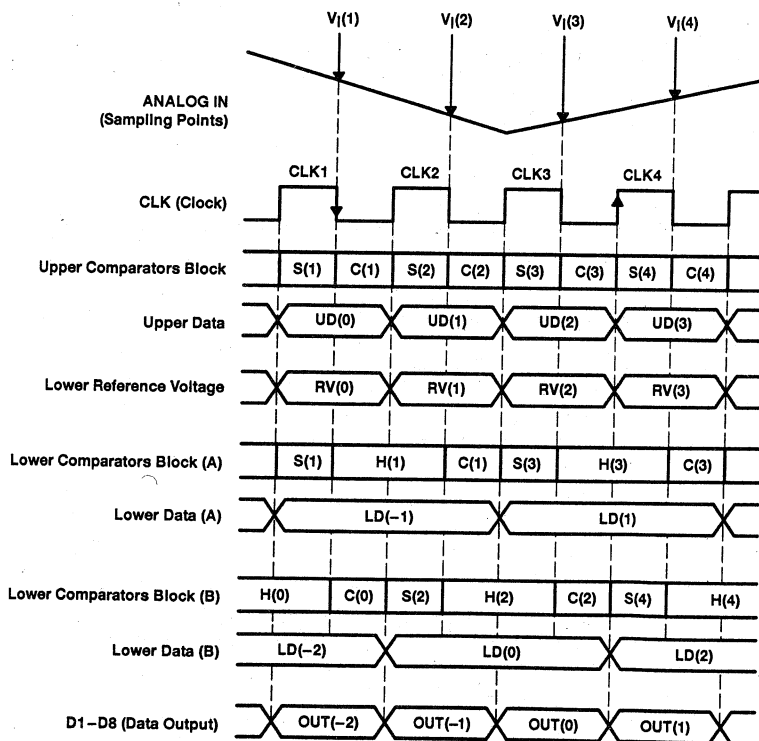

Figure 2. Internal Functional Timing Diagram
As shown in Figure 2, input voltage $V_I(1)$ is sampled with the falling edge of CLK1 to the upper comparators block and the lower comparators block(A), S(1), as shown in Figure 2. The upper comparators block finalizes the upper data UD(1) with the rising edge of CLK2, and simultaneously, the lower reference voltage generates the voltage RV(1) corresponding to the upper data. The lower comparators block (A) finalizes the lower data LD(1) with the rising edge of CLK3. UD(1) and LD(1) are combined and output as OUT(1) with the rising edge of CLK4. According to the above internal operation described, output data is delayed 2.5 clocks from the analog input voltage sampling point.